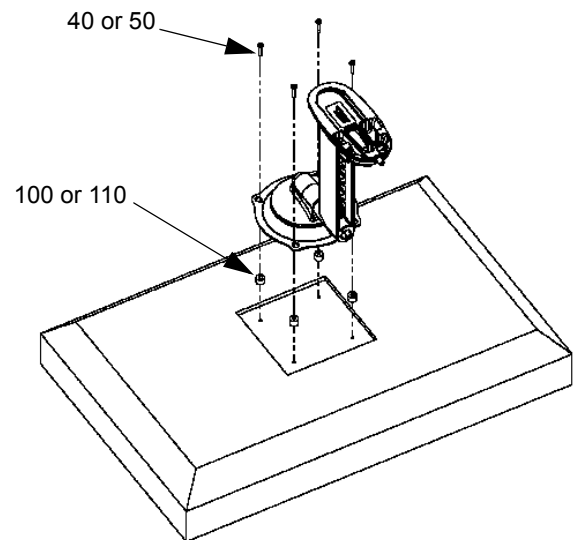

Figure 5: Recess Mount Centris Bracket to Display
3. Install four M4 screws (40 or 50) into the four mounting holes on centris bracket. (see Figure 5)